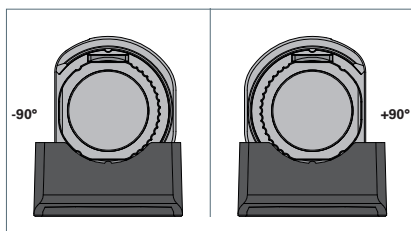

Fig. 7: Aligning the luminaire at -90° or +90°.
- ▶ Turn the luminaire to an angle of exactly -90° or +90°, see Fig. 7.